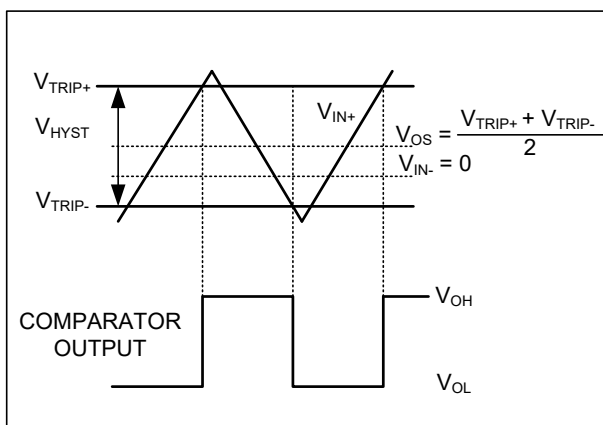

Figure 1. Input and Output Waveform,
3. VOS is defined as the center of the input-referred hysteresis zone. See Figure 1.
4. The input-referred trip points are the extremities of the differential input voltage required to make the comparator output change state. The difference between the upper and lower trip points is equal to the width of the input-referred hysteresis zone. See Figure 1.
The hysteresis in a comparator creates two trip points: one for the rising input voltage and one for the falling input voltage (Figure 1). The difference between the trip points is the hysteresis. The average of the trip points is the offset voltage. When the comparator's input voltages are equal, the hysteresis effectively causes one comparator input voltage to move quickly past the other, thus taking the input out of the region where oscillation occurs. Standard comparators require hysteresis to be added with external resistors. The SGM8743's fixed internal hysteresis eliminates these resistors. To increase hysteresis and noise margin even more, add positive feedback with two resistors as a voltage divider from the output to the non-inverting input.
Figure 1 illustrates the case where  $IN-$  is fixed and  $IN+$  is varied. If the inputs were reversed, the figure would look the same, except the output would be inverted.